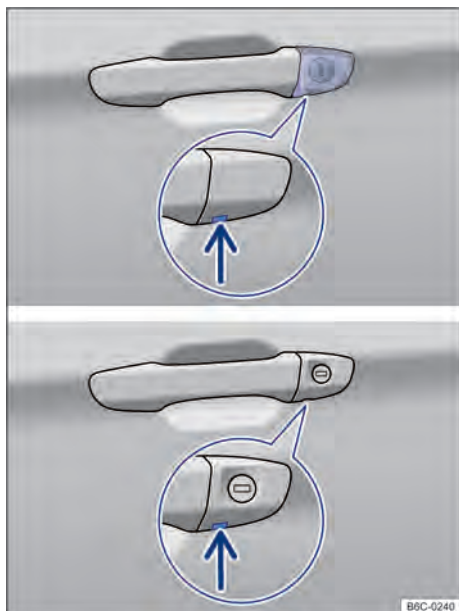

Fig. 56 Driver's door handle: lock cylinder.
- Insert the key blade from underneath into the cover opening → Fig. 56 (arrow).